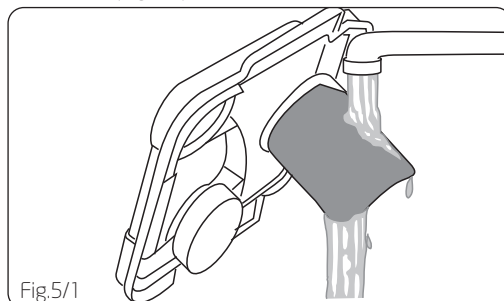

Fig.5/1
**Remove debris** from dirty water tank filter and rinse with clean water (Fig.5/1).